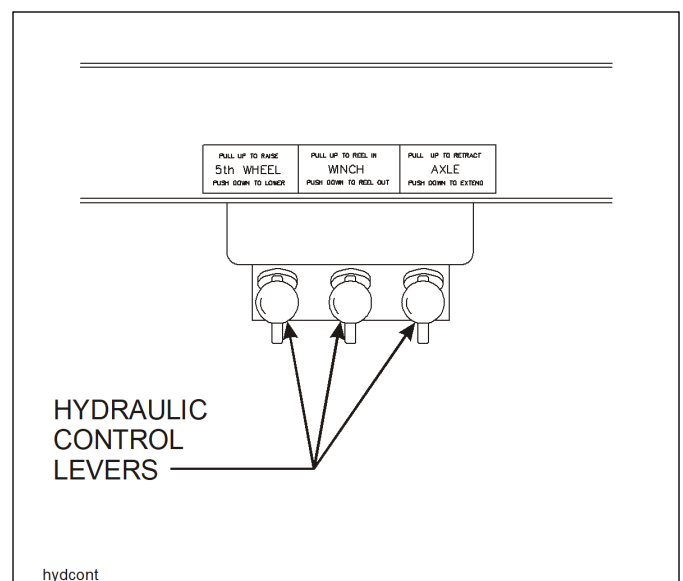

Figure 3-2: Hydraulic Control Levers
2. The king pin plate should be the same height as, or slightly lower than, the latch area of the fifth wheel plate of the tractor. If necessary, connect the tractor hydraulic lines or start the trailer hydraulic power engine. Use the **TRAILER TILT** lever to raise or lower the kingpin plate sufficiently to allow proper coupling (See **Figure 3-2.**) Drain all air and moisture from the tractor air brake system in accordance with the tractor manufacturer's instructions.
1. While hydraulic power is operating, raise the front end of the semitrailer with the **TRAILER TILT** lever until weight is off the landing gear (See Figure 3-2.) Raise landing gear. Secure each leg with a park stand retaining pin in fully retracted position before transporting.
The **TRAILER TILT** lever is located on the driver's side of the semitrailer under the outer frame beam (See **Figure 3-2.**) It has three positions:
The **AXLE CONTROL** lever is the control on the rear with three positions (See **Figure 3-2.**):
The **HYDRAULIC GEARBOX (WINCH) CONTROL** lever is the center lever (See **Figure 3-2.**) It is a three position control:
- c. The **HYDRAULIC WINCH CONTROL** lever is the center lever (**See Figure 3-2.**) It is a three position control: